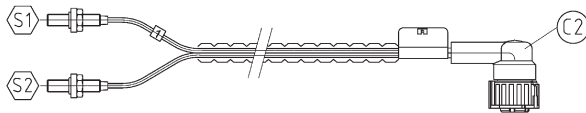

Abb. 4
- 1 x 2 sensor cable with plug (only remote indication) (Fig. 4).
- Fit bulb in telltale (see Fig. 4)